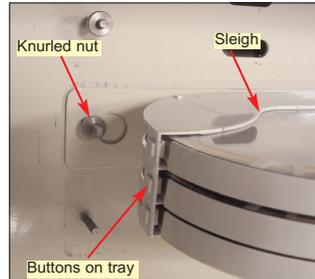

Fig. 36
- Remove the sleigh. The 3 or 6-tray sleigh can be removed by loosening (don't remove) the knurled nut holding the sleigh assembly to the bulkhead, and sliding the sleigh assembly to the left, clearing the nut and stud on the other end of the entry (Fig. 36).